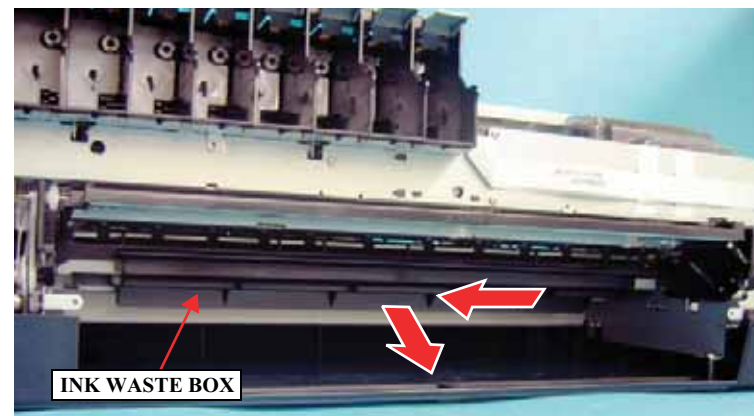

Figure 4-95. Removing the INK WASTE BOX
3. Slide the INK WASTE BOX to the left and release it from the tab of the main frame, and remove the INK WASTE BOX. See Figure 4-95.